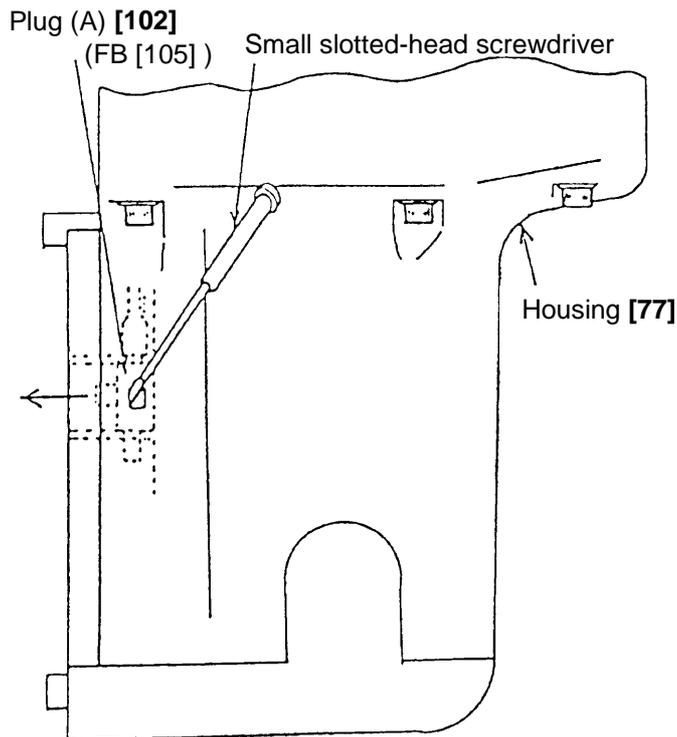

Fig. 15
Then, as indicated in Fig. 15, insert a small slotted-head screwdriver into the square hole of the Housing and pull out the Plug (A) Ass'y [102] (FB [105]) in the direction indicated by the arrow while pushing on the projection with the tip of the screwdriver.